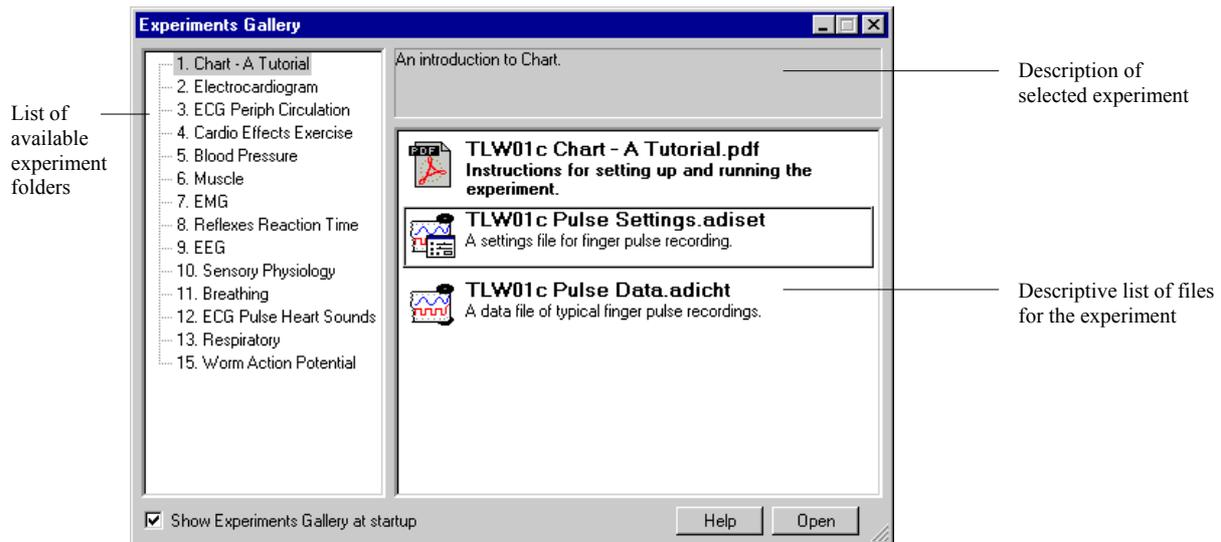

Figure 4. The Experiments Gallery dialog box, with the settings file for this experiment selected.
2. Choose the Experiments Gallery... command from the File menu. You should see a dialog box like that in Figure 4. Take a few moments to make yourself familiar with it.